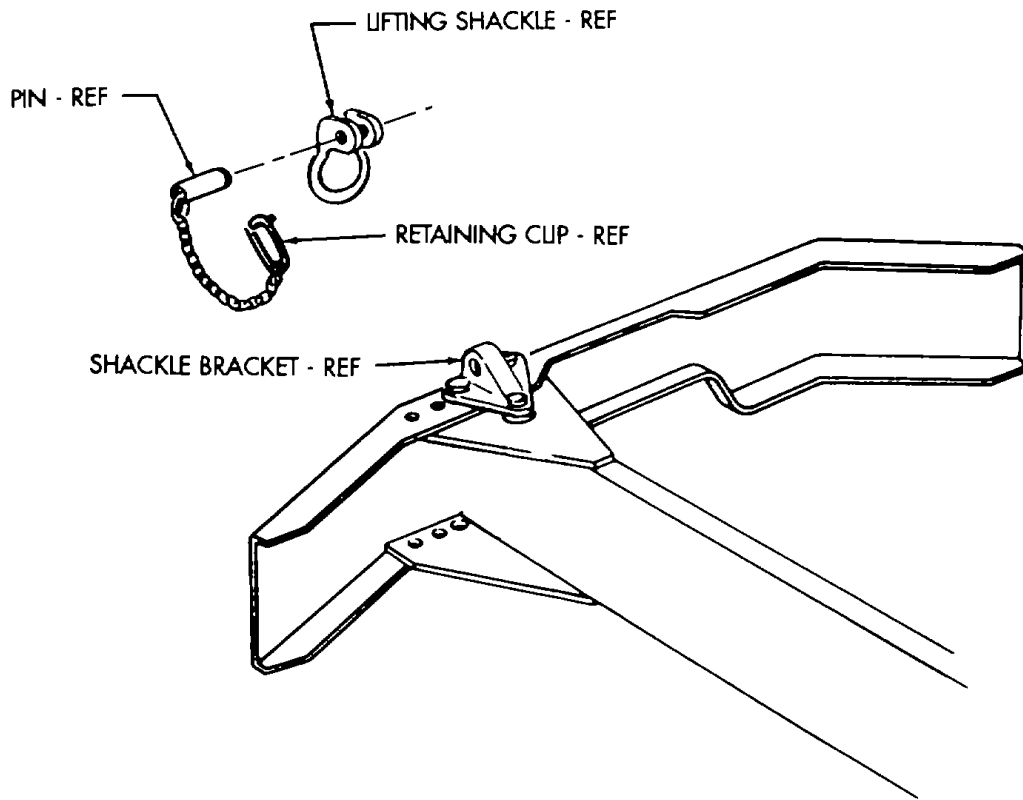

FIGURE 1
- (1) Set parking brake (TM 9-2320-272-10)
- (2) Remove retaining clip from pin as shown in figure 1
- (3) Remove pin and lifting shackle from shackle bracket Return lifting shackle and pin and chain assembly for disposition as shown is figure 1